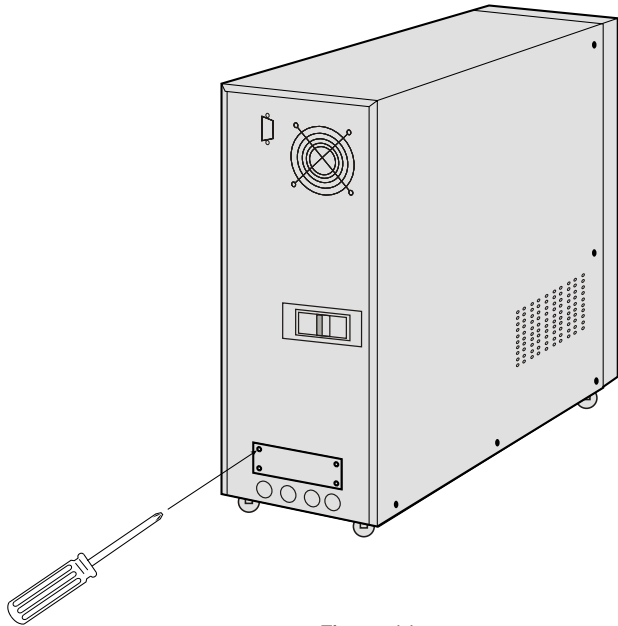

Figure 11
(1) Remove two screws with "+" screw-driver (Figure 11)